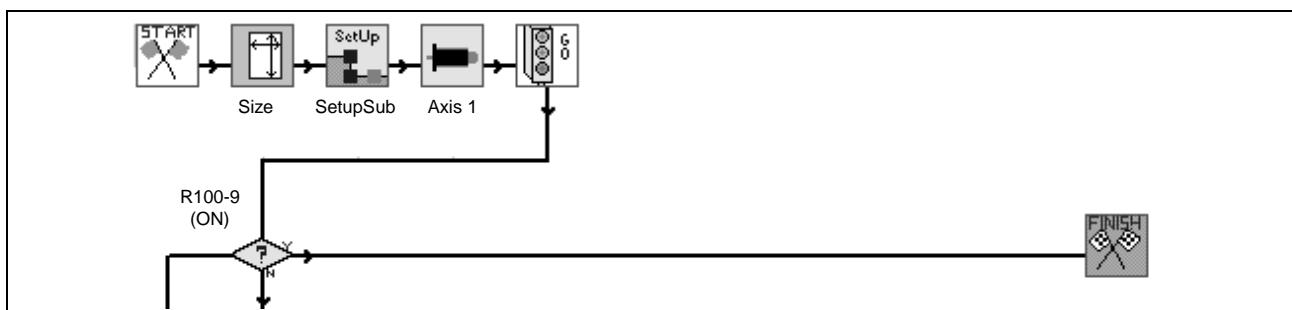

Fig. 3-9: Program Setup
The section in Fig. 3-9 starts the program, allocates memory space for variables and sets up axis 1. A setup subroutine is then executed. The Go icon enables axis 1 for non-coordinated motion. The branch icon continues the program if register 100 bit 9 = 0. If the bit is high (1), the program will end.